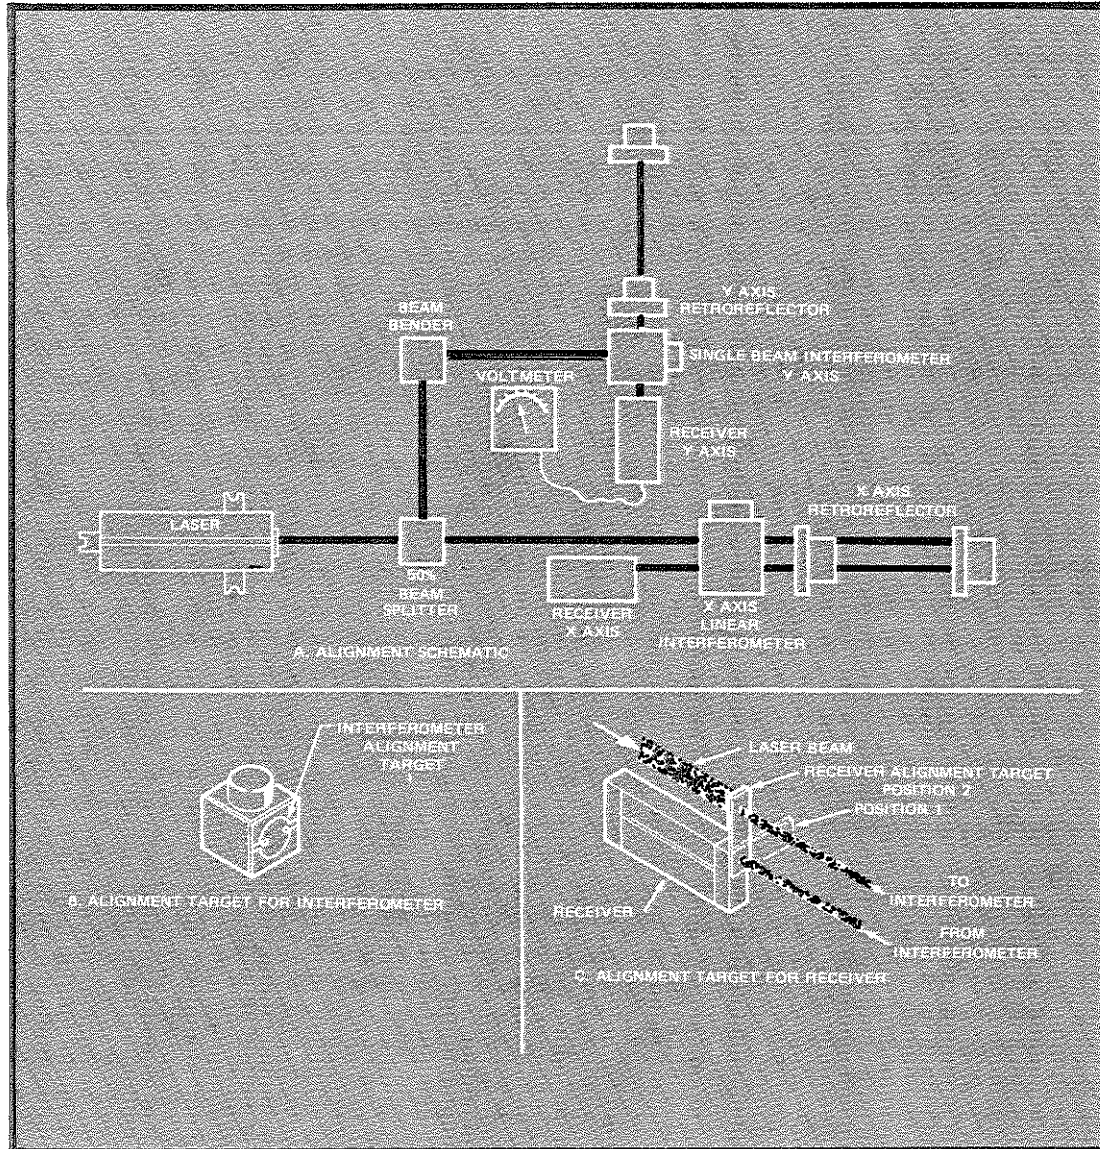
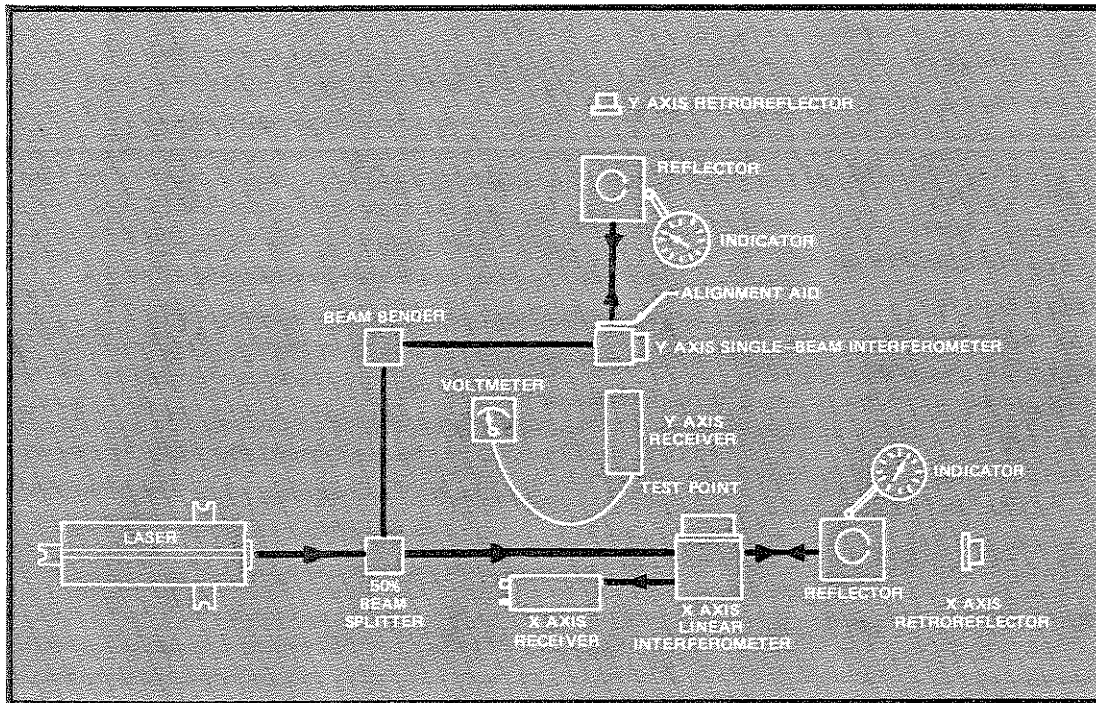

Figure 2-53. Visual Alignment
Figure 2-54. Autoreflexion Alignment
The techniques describing the two-axis visual alignment procedure can be followed for almost any measurement configuration. *Figure 2-53* is a typical measurement configuration which includes a linear interferometer and a single beam interferometer. In general, when the optical components are installed on the machine, their optical centerlines will be nominally in the correct relationship and only minor adjustments should be required.
When starting the adjustment procedure, one-axis at a time is adjusted. The first axis to be adjusted is the axis where any angular adjustment of the laser beam requires adjustment of the 5501A Laser Transducer (see X-axis, *Figure 2-53*). After angular adjustment, the laser head is locked down and any angular adjustment of the laser beam in the other measurement axes is accomplished by rotating the optical components. For visual alignment of the measurement system in *Figure 2-53*, perform the following procedure:
Figure 2-54 shows a measurement setup similar to *Figure 2-53* except that the autoreflexion technique is used for alignment.
For autoreflexion alignment of the measurement system in Figure 2-54, perform the following procedure:
16. Place alignment aid over output aperture of single beam interferometer as shown in Fig. 2-54. Edges of alignment aid must be parallel to sides of single beam interferometer housing. Adjust the single beam interferometer angularly until the return beam reflected from the reflector returns and is centered on the small aperture of the laser head. Slight lateral adjustments of the interferometer may be required to ensure that the reference beam from the interferometer is centered on the receiver alignment target. Do not adjust the laser head.